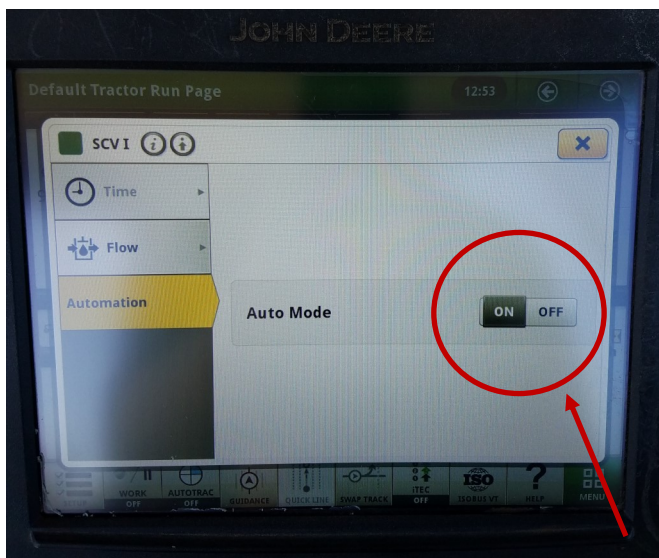

Figure 7-45
4. Make sure "AUTO MODE" is on. See Figure 7-45.